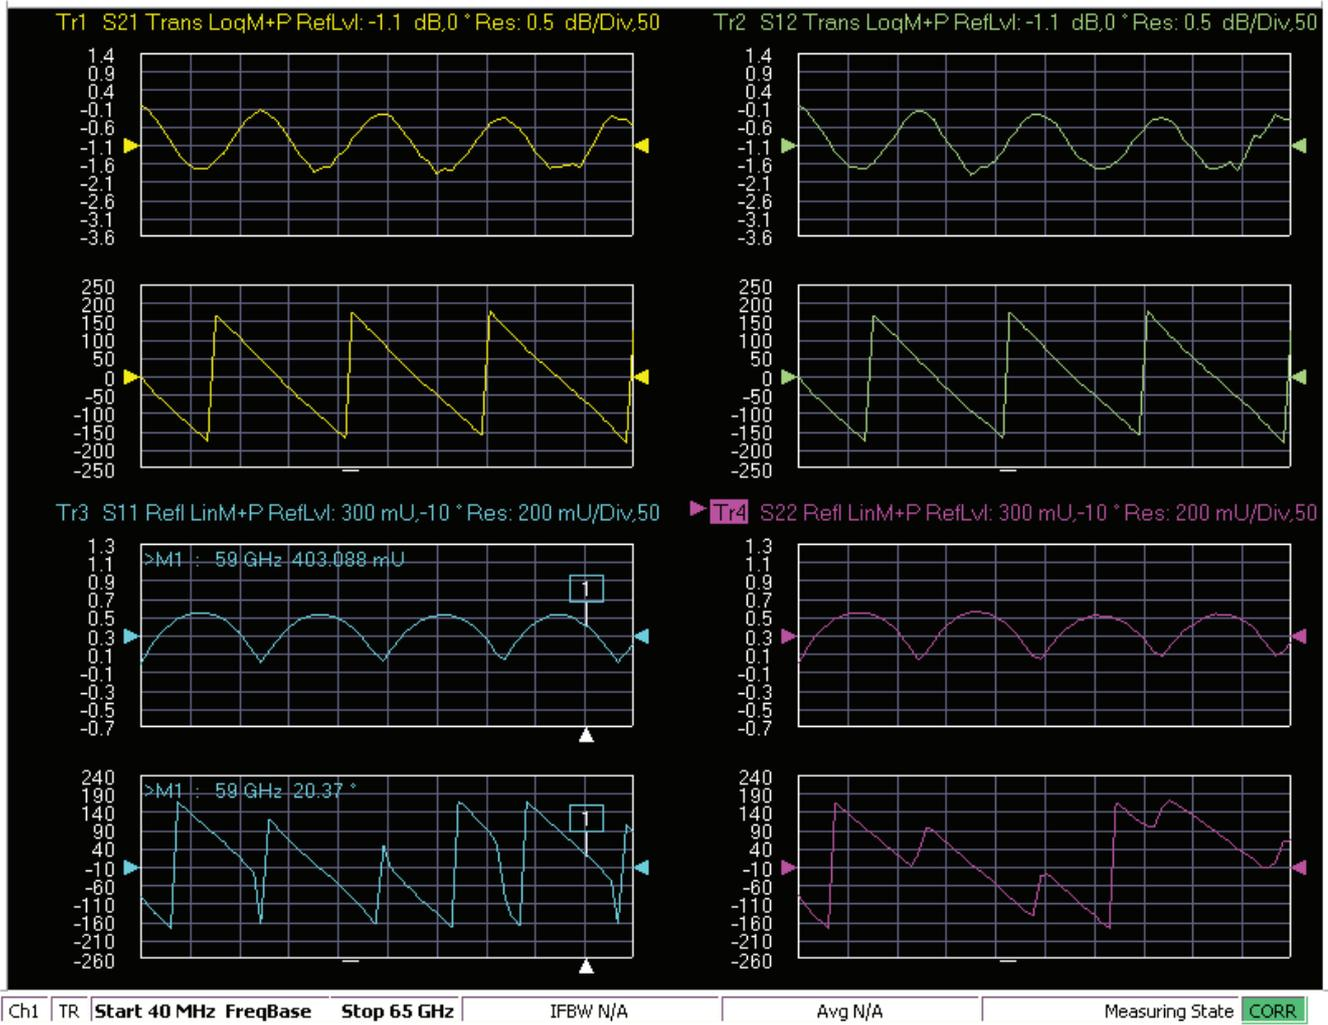

Figure 3-46. MS4640B Series VNA, Typical Mismatched Thru Data in Low Band
- When the test completes, the program returns to the main menu described Section 3-9 “Application Interface – Main Menu Tab” on page 3-23, and the display should look similar to Figure 3-46. This is a typical display immediately after measuring the Mismatched Thru in the Low Band. Please note this is for reference only and that the actual data on the VNA display may not be identical.